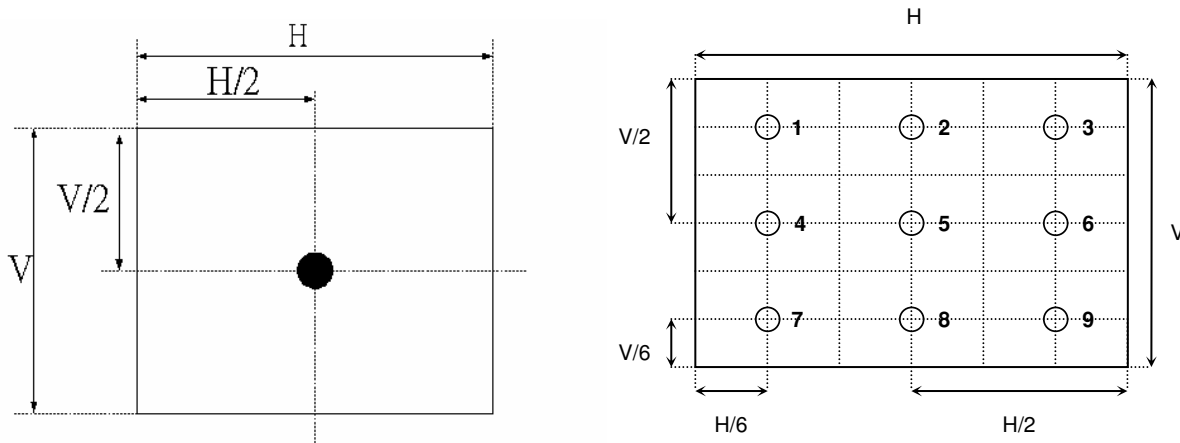

Fig.4-2 Optical measurement point
- 2..Surface Luminance is luminance value at point 5 across the LCD surface 50cm from the surface with all pixels displaying white. For more information see Fig. 4-2. When lamp current $I_{out}=8.5\text{mA}$, $L_{WH}=L_{on5}$, where L_{on5} is the luminance with all pixels displaying white at center 5 location.